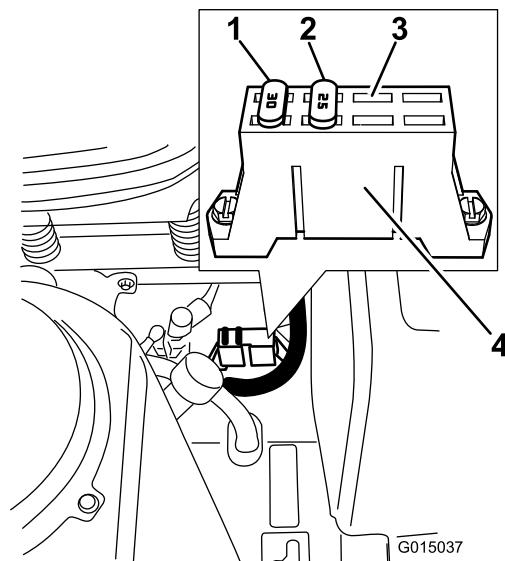

Figure 48
1. The fuses are located on right hand console next to the seat (Figure 48).
3. Install a new fuse of the same amperage removed (Figure 48).